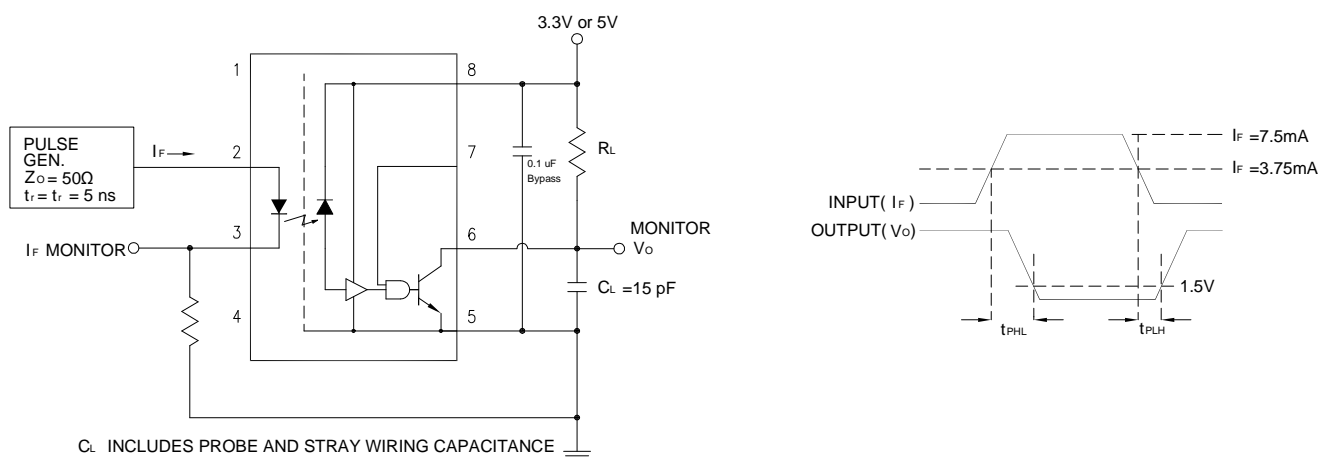

Figure 1: Test Circuit for t_{PHL} and t_{PLH}
1. A $0.1\mu F$ or bigger bypass capacitor for V_{CC} is needed as shown in Fig.1